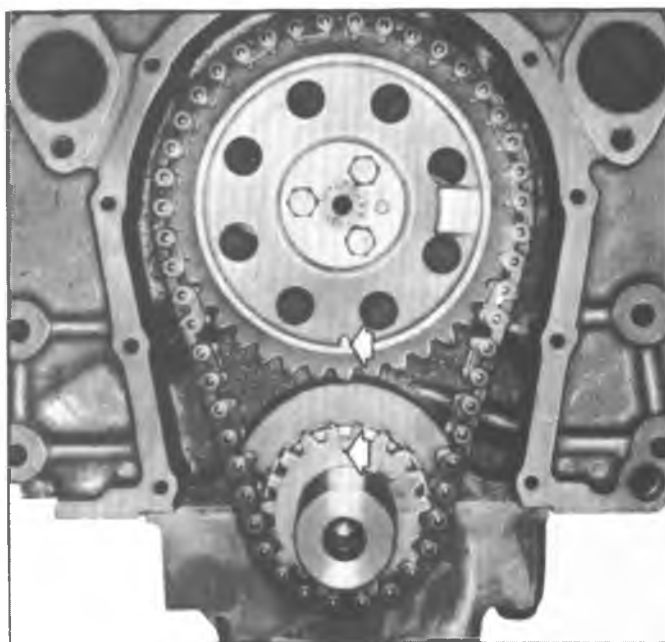

Fig. 21V—Timing Sprocket Alignment Marks
2. Crank engine until marks on camshaft and crankshaft sprockets are in alignment (fig. 21V).
2. Install timing chain on camshaft sprocket. Hold the sprocket vertically with the chain hanging down, and align marks on camshaft and crankshaft sprockets. (Refer to fig. 21V and 25V).